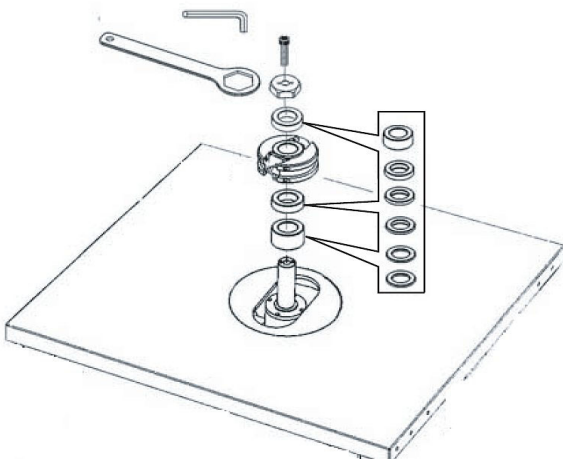

Fig. 8: Fitting the milling tool
Step 2: Place the milling head and spindle spacer rings onto the spindle and secure the end flange in position using the M12x25 hexagon socket bolt (Fig. 8).